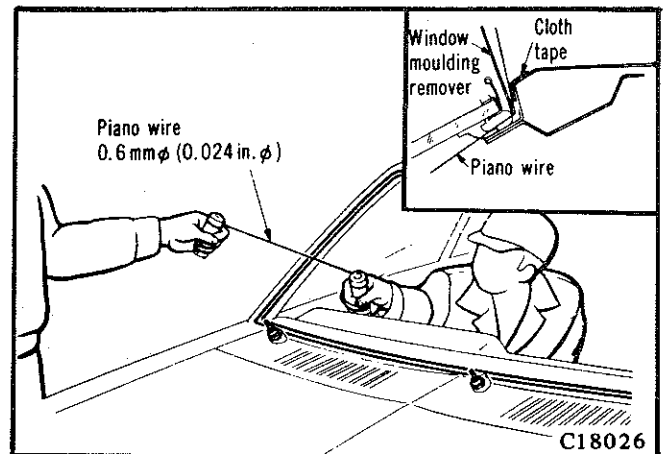

Fig. 2—Cutting adhesive
(6) Apply a cloth tape around the opening perimeter as shown to protect the paint finish, refer Fig. 2.
(7) Using a sharp pointed drill, make a hole in the adhesive in the lower corner of the windscreen and insert a piano wire 0,6 mm (0.024") diameter into the adhesive from the inside.
(8) Wrap the wire around a suitable blunt ended tool handle and with the aid of an assistant, move the wire around the perimeter of the window, in a sawing motion, to cut the adhesive, refer Fig. 2.
(9) Remove the windscreen from the vehicle.
(10) If the glass is to be reused, remove the old adhesive with a suitable knife being careful not to damage the glass surface.
(11) Remove the spring clip moulding retainers from the glass.
(12) Remove as much adhesive, from the body fence flange as possible without cutting the paint finish of the fence flange or the body.